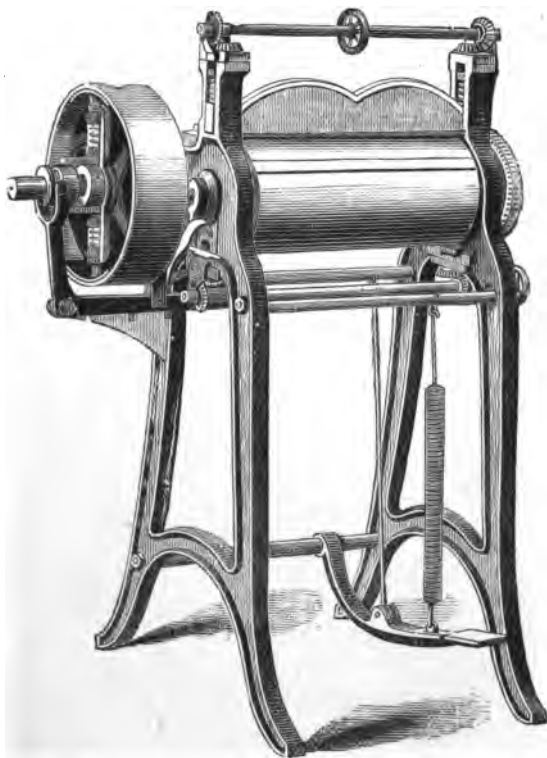

Fig. 70.—UPPER LEATHER SPLITTER.
**Upper Leather Splitter** (Fig. 70) is an exceedingly useful machine employed for splitting purposes. In the event of upper leather, calf, kip, &c., being too thick for a